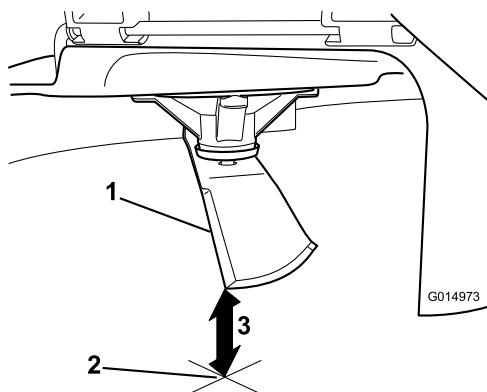

Figure 114
5. Measure from the tip of the blade to the flat surface (Figure 114).